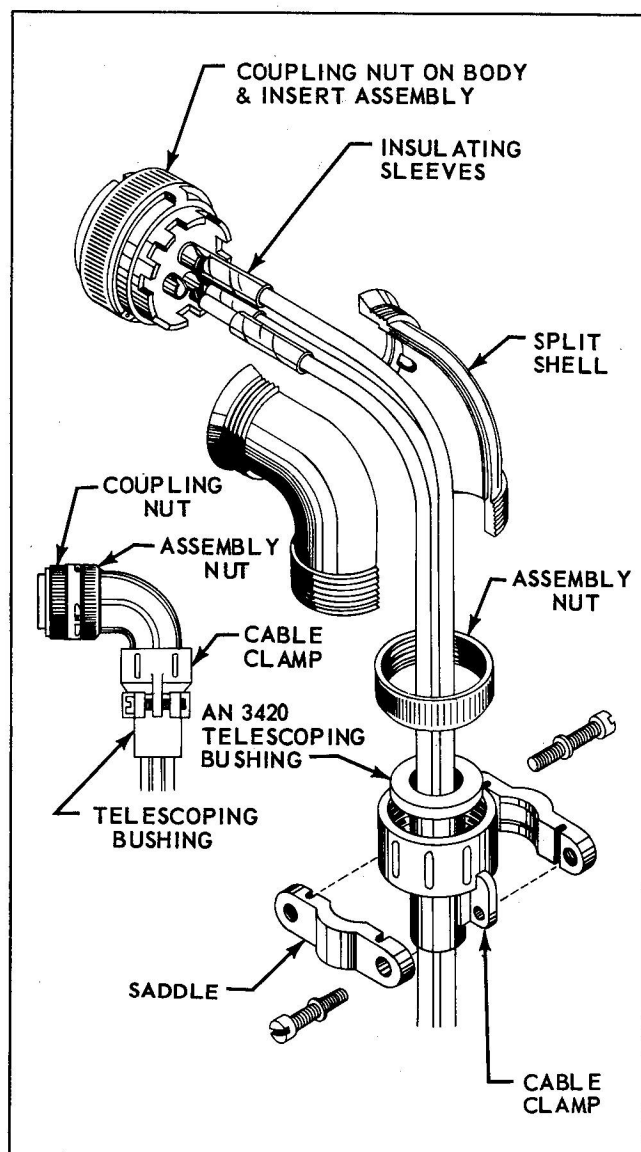

Figure 3-60. Installation of Cannon Class B Connector
c. Install the following items on wire bundle in listed order as shown in Figure 3-60.